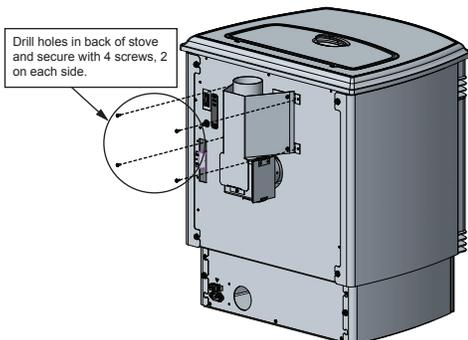

Figure 3
- Ensuring the adapter is in the vertical position. Drill 4 holes with #26 drill bit (C3) into the back of the stove using the outer shield on the adapter (C1) as a guide. Secure using four mounting screws (C2) (Figure 3).